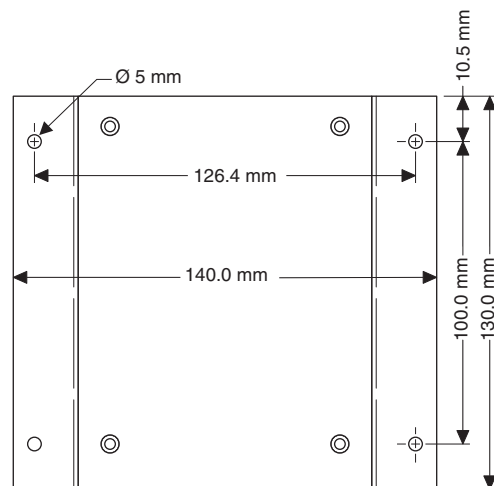

Figure 10 FL PA SFNT 5-8 Dimensions
- i** The dimensions of the FL PA SFNT 5-8 are shown in Figure 10.